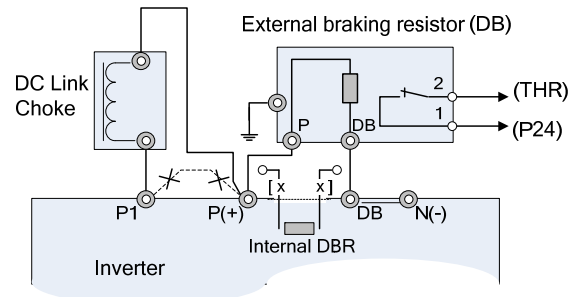

Fig. 2-3-4 Connection (10HP/CT or less)
4. Connecting an external braking-resistor to terminals (P (+) and DB) (10HP/CT, 15HP/VT or less) (Fig. 2-3-4). For inverters 10HP/CT, 15HP/VT or less, a built-in braking resistor is connected to terminals P (+) and DB. If this braking resistor does not provide sufficient thermal capacity (e.g. high operating duty cycle or high inertia loads), an optional external braking resistor must be installed to improve braking performance.